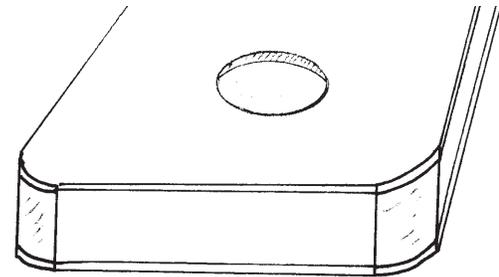

FIG. 7
- ___7. Trim off the excess wood from the TOP and BACK, to match the sides. A good tool for this is a router with flush-trimming bit, or a power sander with coarse sandpaper (80 grit). If you use a coping saw, be sure that the teeth are pulling down so you don't chip off the nice face of the veneer. We also recommend rounding all the corners. (fig. 7) The best tool for this is a disk sander -- hold each corner against the disk and rotate the box to get a smooth round shape.